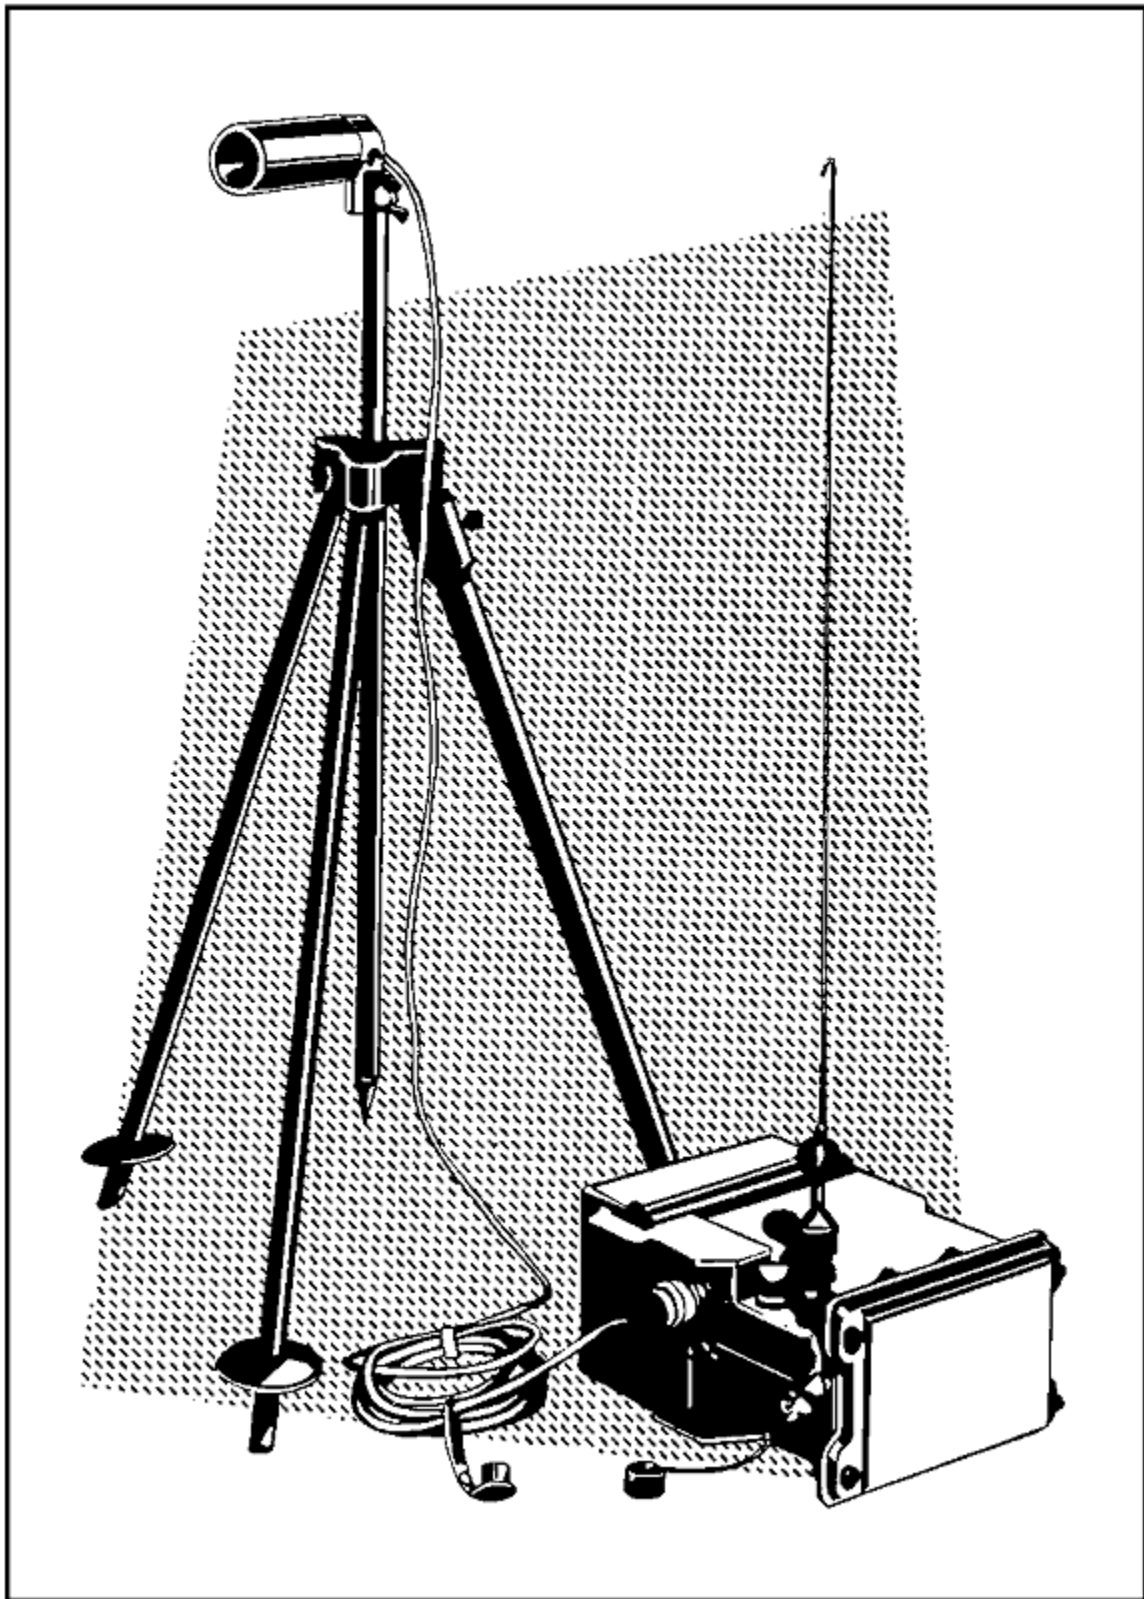

Figure 2-3. Infrared Passive Sensor DT-565/GSQ.
(3) INFRARED PASSIVE SENSOR DT-565/GSQ (See Figure 2-3)